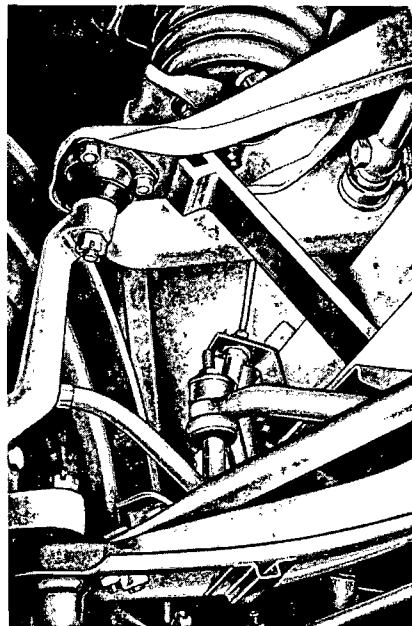

FIG. 3—Upper Arm Support—Mustang
1. Position a support between the upper arm and frame side rail as shown in Figs. 3 and 4; then, raise the vehicle and position safety stands.
1. Position the block as shown in Fig. 3 under the upper arm for support.